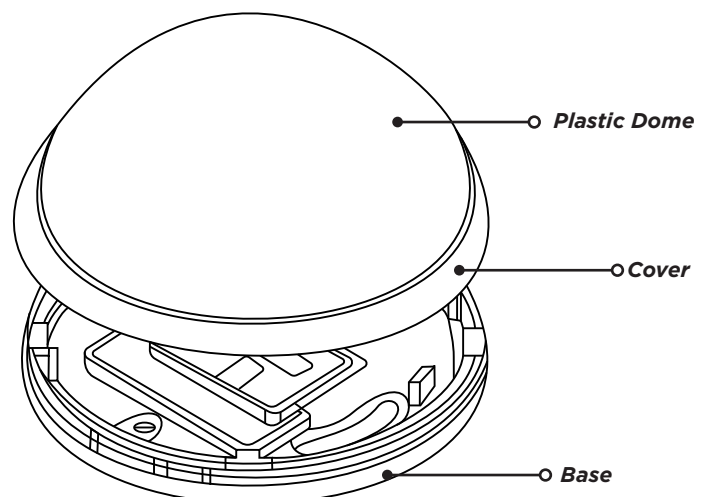

Figure 2: Open the 1126R
3. Hold the base and twist the cover counterclockwise until the 1126R separates. See Figure 2.